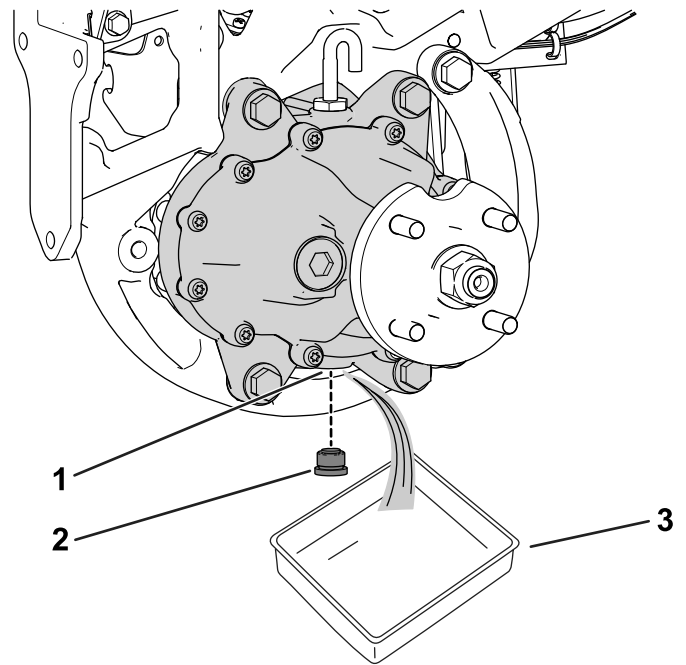

Figure 61
3. Place a drain pan under the wheel-motor assembly (Figure 61).
4. Remove the plug from the drain port (Figure 61).
6. Install the drain plug into the drain port (Figure 61).